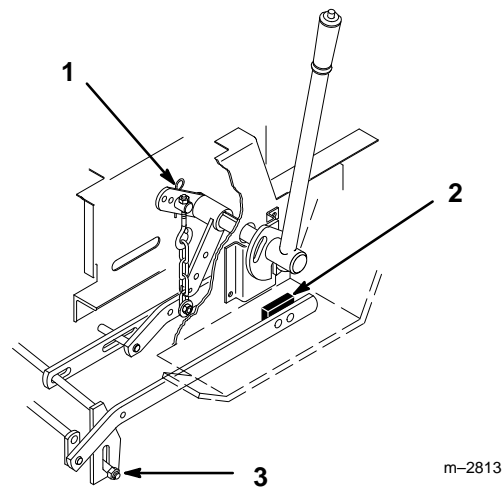

Figure 10
- Adjust lift chain by turning trunnion on eyebolt in rear hole of tractor lift (Fig. 10). Turn trunnion clockwise to raise or counterclockwise to lower mower.
- Transport level stops are normally in the bottom of the slot, however they can be adjusted up for side-to-side level when extra weight from a grass catcher is on one side (Fig. 10).